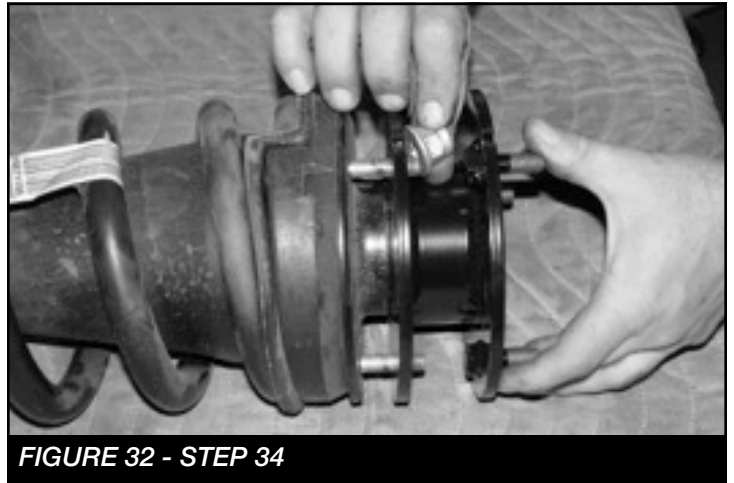

FIGURE 32 - STEP 34
34. Install the FT20560BK coil spacer using the factory nuts and torque to 30 ft-lbs. **SEE FIGURE 32**